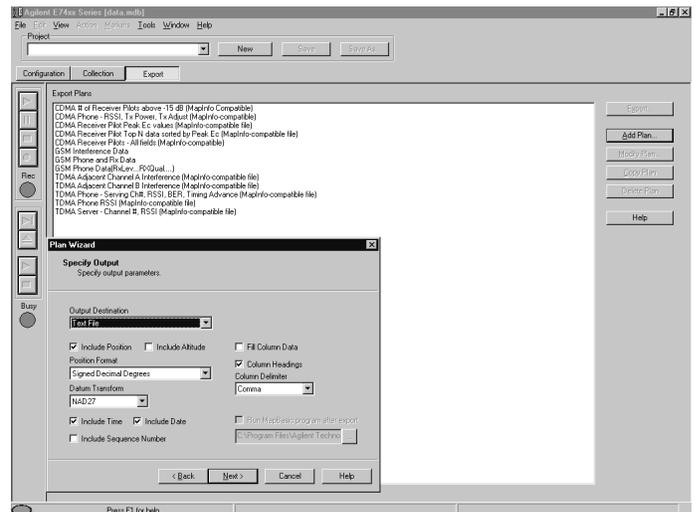

Figure 34e. Specify output window.
1. Select the output file type from the Output Destination pull-down list. Figure 34e shows a standard text file format.